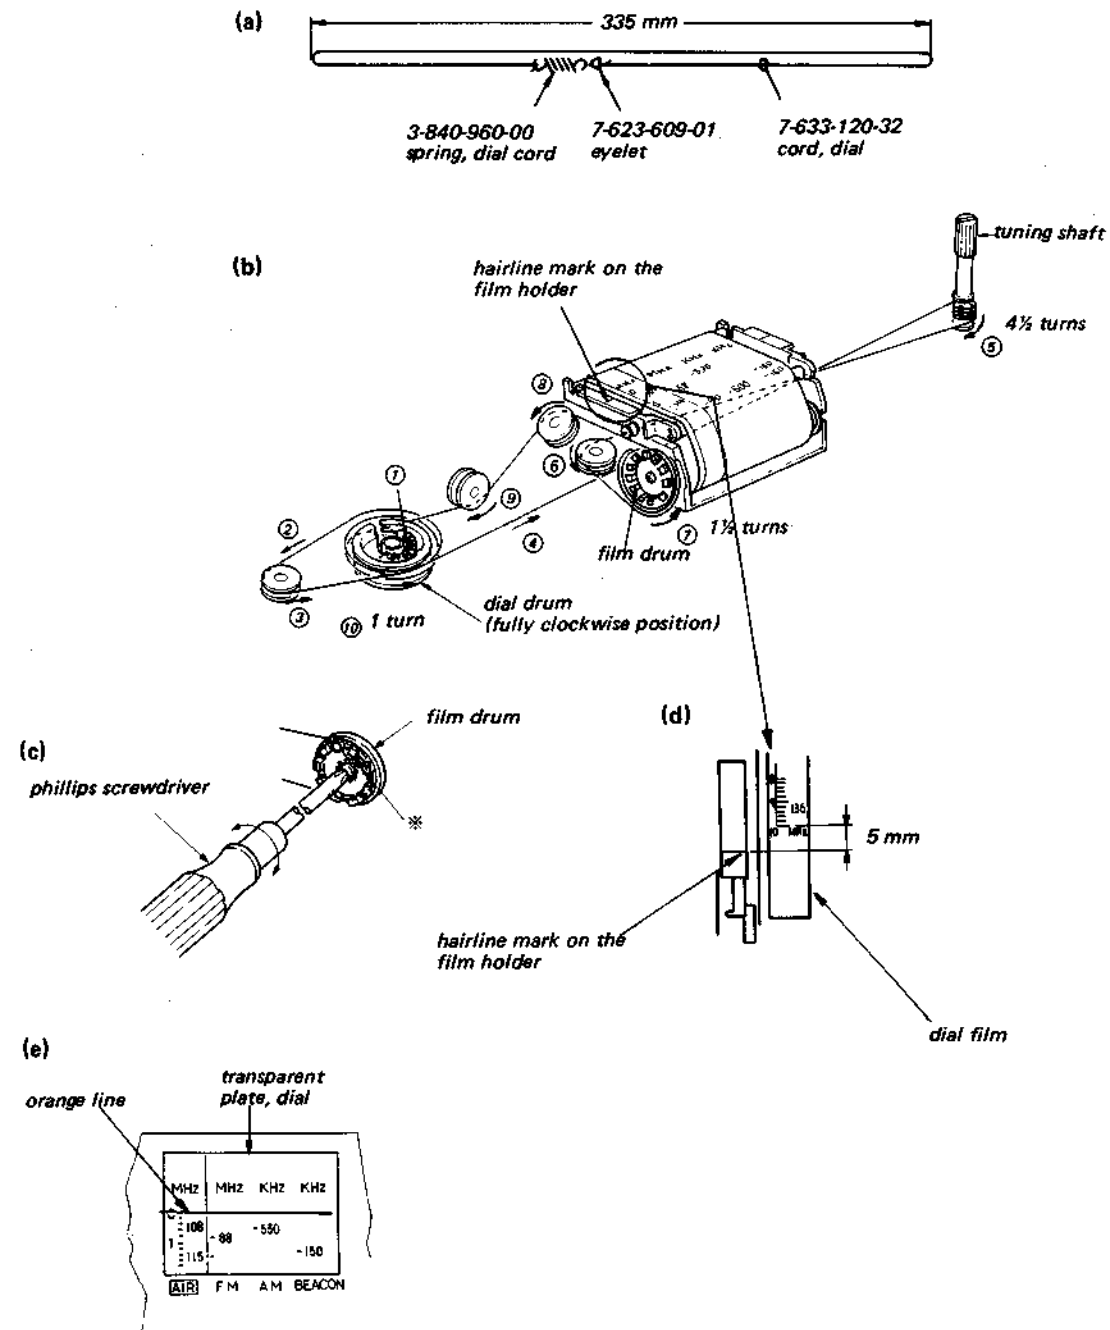

Fig. 2-11.
1. Make a dial cord assembly as shown in Fig. 2-11 (a) and apply a small amount of lock paint to the knotted portions.
2. String the cord as shown in Fig. 2-11 (b).
3. Set the tuning shaft to fully clockwise position and adjust the film drum position with a phillips screwdriver as shown in Fig. 2-11 (c) so that the logging scale "10" on the dial film
4. Hang the dial cord on the claw of the film drum as shown with * in Fig. 2-11 (c).
5. Set the chassis back into the cabinet and set the tuning shaft at fully counterclockwise position and check that the orange line on the dial transparent plate is at the mark "0" on the dial film as shown in Fig. 2-11 (e).